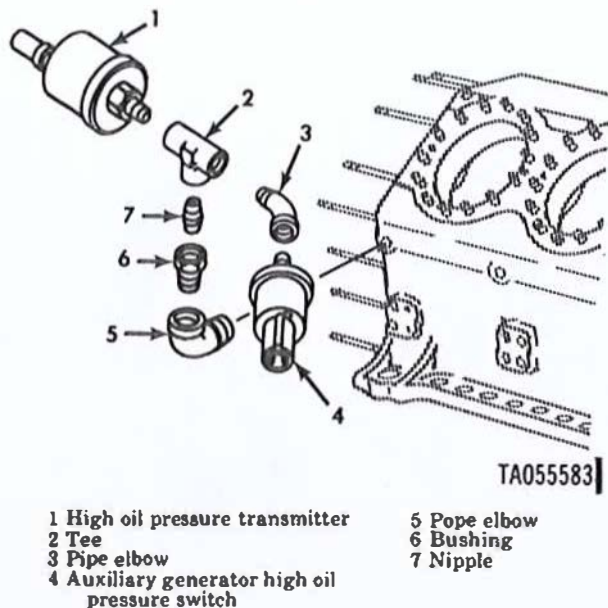

Figure 3-150.1. Pressure transmitter and pressure switch - exploded view, model AVDS-1790-2DR engine.
b. Inspect the engine crankcase rods (13, fig. 3-149), plate washers (12), nuts (11), and oil seal retainers (2) for damaged threads and other unserviceable conditions. Inspect injection pump base (2, fig. 3-150) according to instructions covering castings in paragraph 3-37b, c, and d. Inspect high oil pressure transmitter (1, fig. 3-150.1) and auxiliary generator high oil pressure switch (4) for damage. Replace all parts found unserviceable.